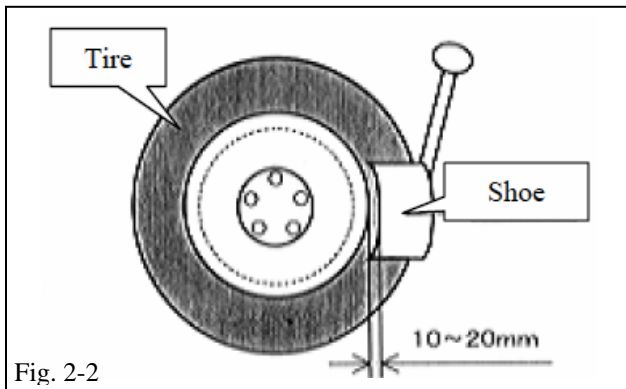

Fig. 2-2
- (c) Carefully separate the upper tire bead from the wheel rim. (Fig. 2-2).